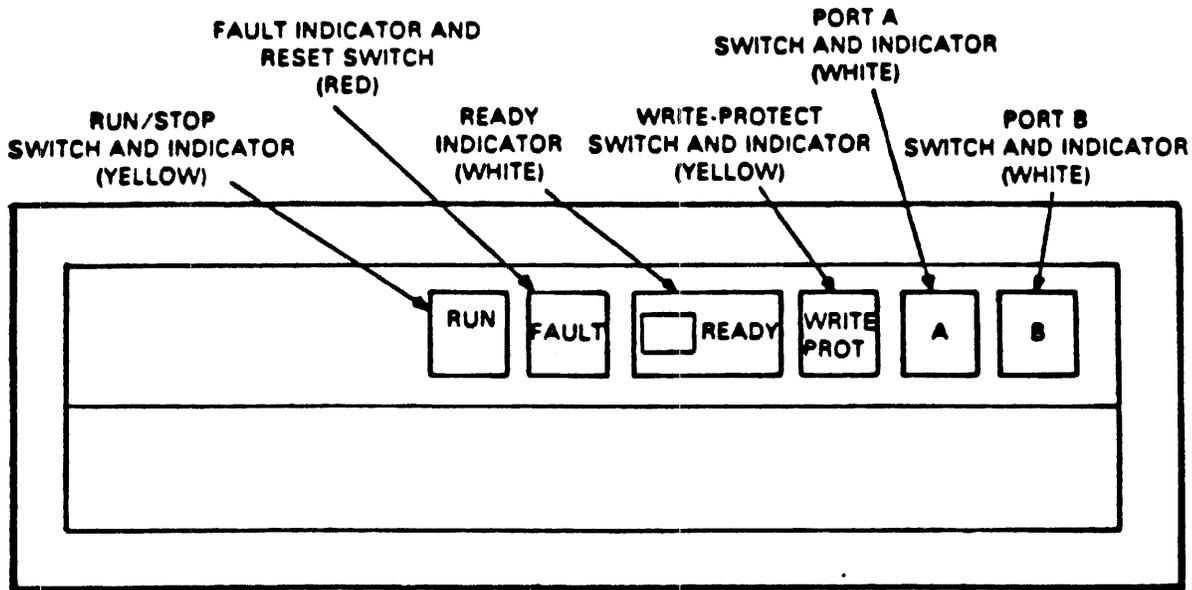

Figure 1 Front-Panel Controls and Indicators
4. Spin the drive down by pressing the RUN/STOP switch. (Figure 1)
17. Spin up the Drive by pressing the RUN/STOP switch. (Figure 1)
18. After the Drive has spun up and a ready light is "ON", press the "A" and/or "B" port switches on the Operator Control Panel to the "IN" position. (Figure 1)